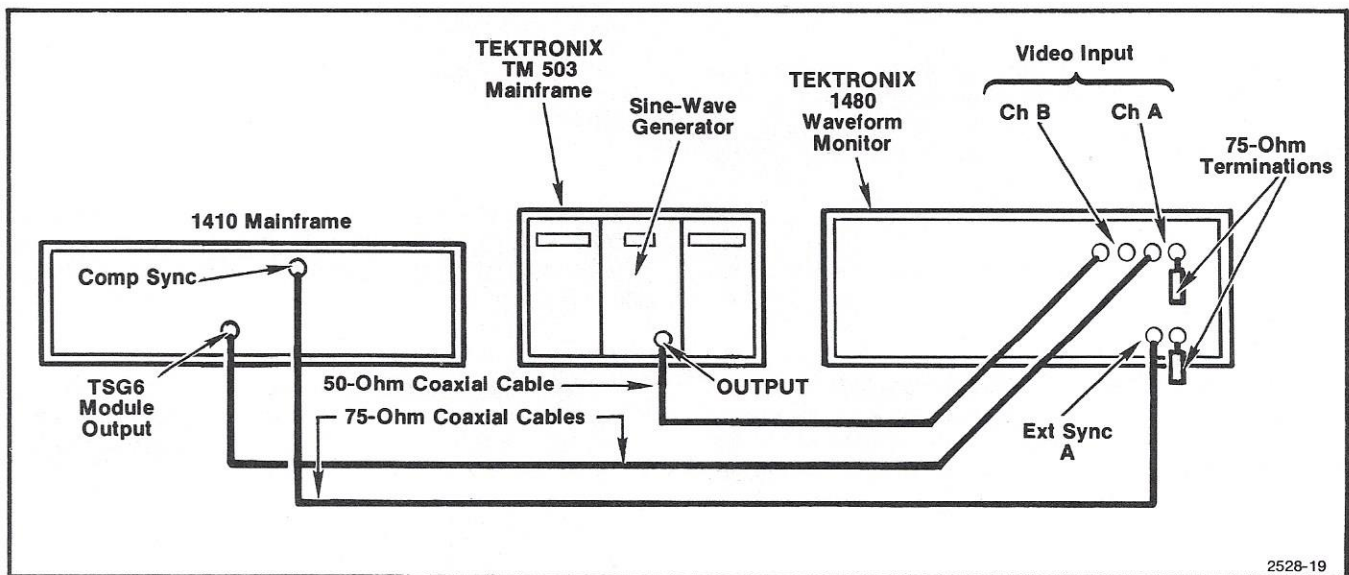

Fig. 2-3. Equipment connections for checking TSG6 multiburst and marker frequencies.
a. Connect the TSG6 Module Output signal via a 75-ohm coaxial cable to the 1480 Waveform Monitor CH A Video Input connector. Terminate the remaining CH A Video Input connector into 75 ohms. See Fig. 2-3.
b. Connect the output signal from the sine-wave generator via a 50-ohm coaxial cable to the 1480 Waveform Monitor CH B Video Input connector. Leave the Ch B loop-through connector unterminated. See Fig. 2-3.